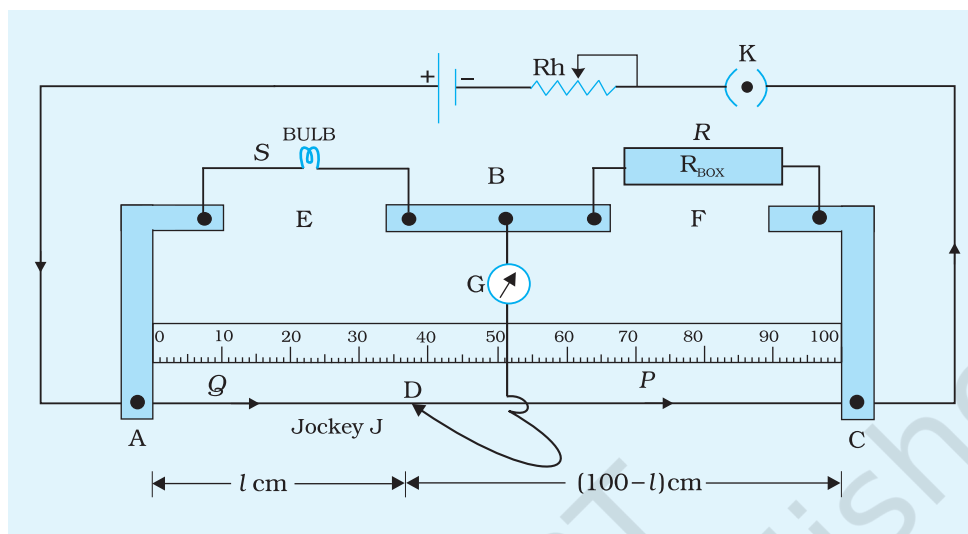

Fig. E 2.4
1. Determine the resistance of an electric bulb of given voltage and power. Attach crocodile clips at the end of two copper wires. Use these to connect the bulb in the gap E as shown in Fig. E 2.4. Why does the resistance obtained by you differ from the theoretical value?